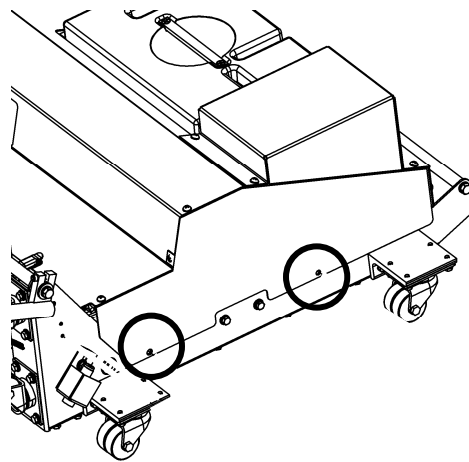

Figure 3-2
2. Remove the two screws on both sides of the machine that attach the hood to the frame, as shown in Figure 3-2, and lift off the hood. Set aside the screws.